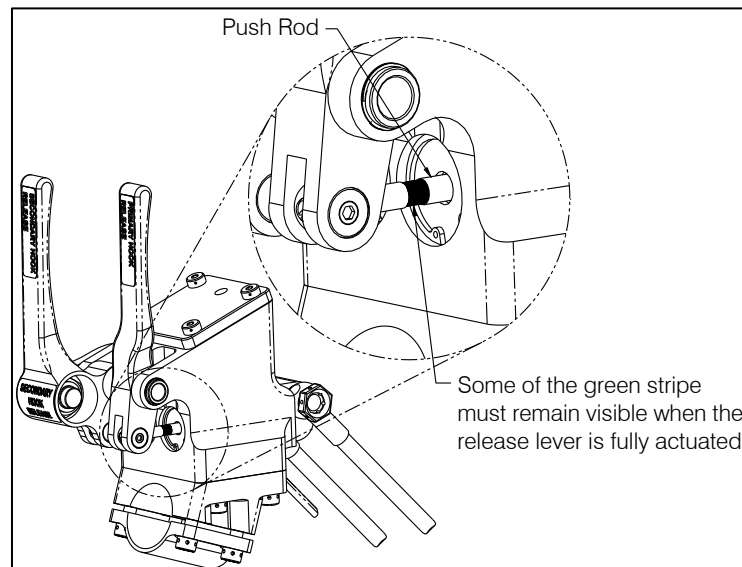

Figure 6 – Checking Hydraulic Release System for Air
7. Check the BQRS' hydraulic release systems for excess air in the lines. Pull the primary release lever firmly until it bottoms out. Check the push rod position (see **Figure 6**). If some of the green ring on the push rod is visible, the system is ready for use. If none of the green ring is visible, the system needs to be bled. Repeat with the secondary release lever.